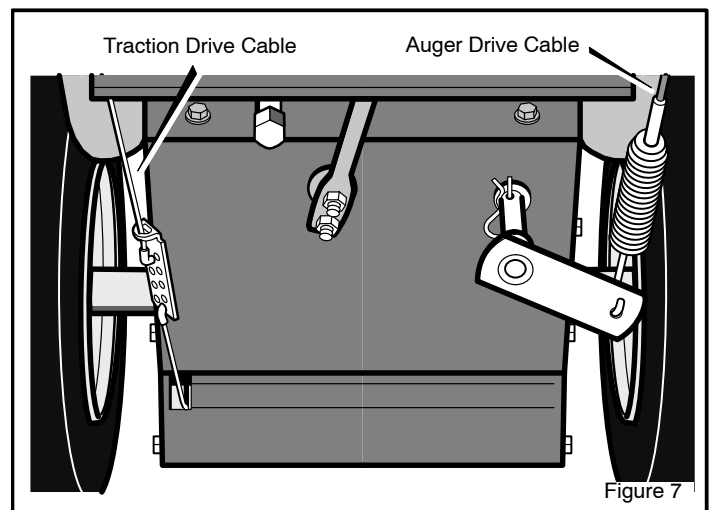

Figure 7
1. If control cables have become unattached from motor mount frame, reconnect cables as shown in Figure 7.